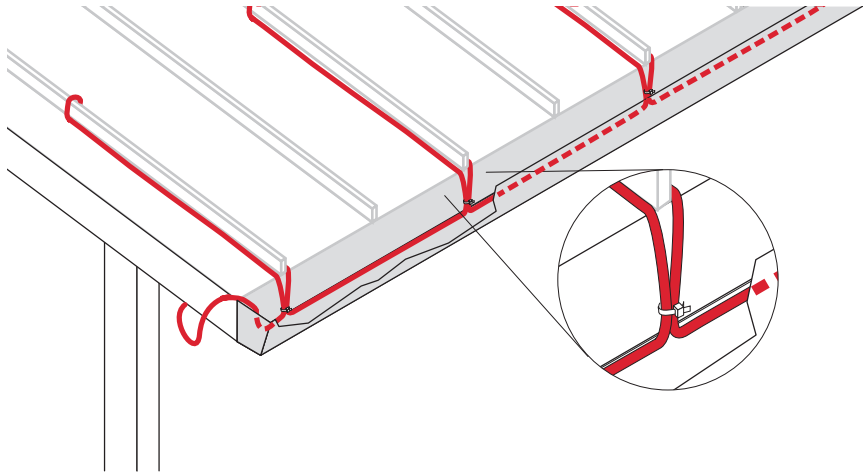

Fig. 8 Layout on a standing seam roof
For sloped standing-seam metal roofs, ice dams may form at the roof edge. To maintain a continuous path for melt water to run off, route the heating cable along the seams as shown in Fig. 8 and follow the attachment recommendations in “Step 6 Select attachment accessories and method” on page 21. Additional heating cable may be needed for gutters, downspouts, and valleys.
- Run the heating cable up one side of the seam, loop it over to the other side, and return it to the bottom of the gutter. Continue along the bottom of the gutter to the third seam and repeat the process (Fig. 8 on page 10). If the seams are more than 24 inches (60 cm) apart, trace every seam.
Note: Attachment methods are not shown in Fig. 8. For attachment methods, proceed to “Step 6 Select attachment accessories and method” on page 21.